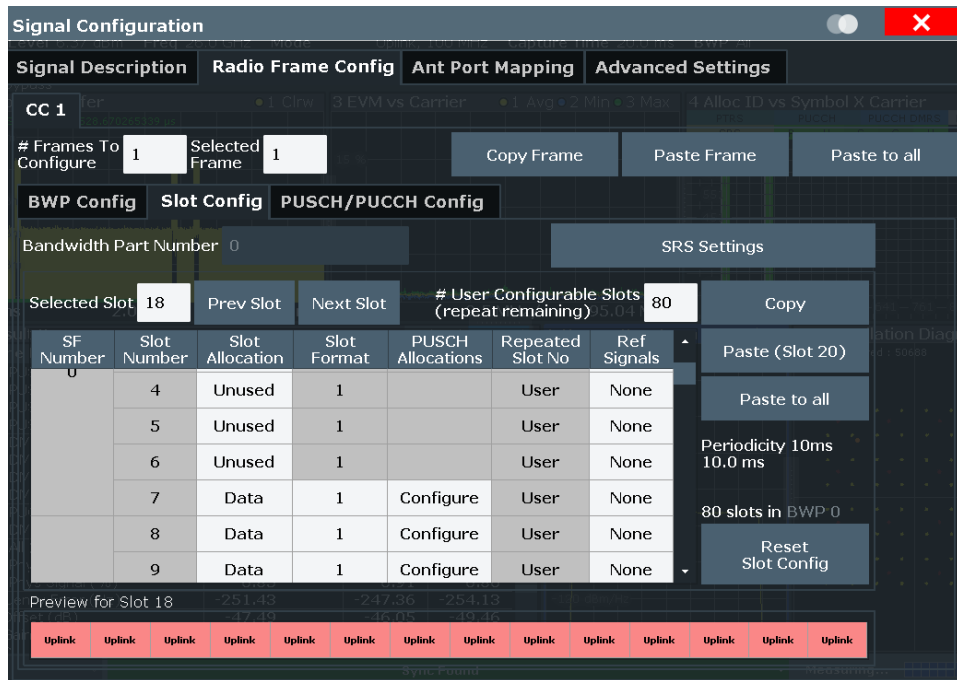

Fig. 4-23: 5G NR TDD UL slot configuration
- Hit Configure on the PUSCH allocation column (shown in Fig. 4-23)